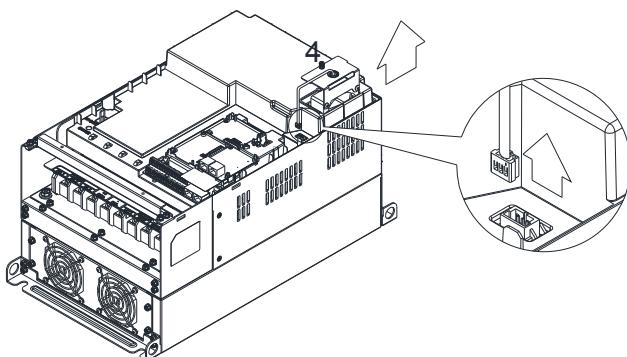

Figure 3
3. Loosen screw 4 (figure 3) and disconnect fan power and pull out the fan. (As shown in the enlarged picture 3)